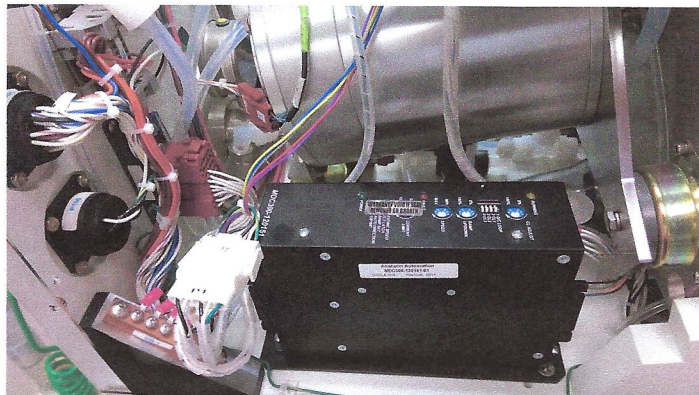

Figure 3
3. Place the new controller 4130794 (Figure 3) which will have the new wiring already on the new bracket.